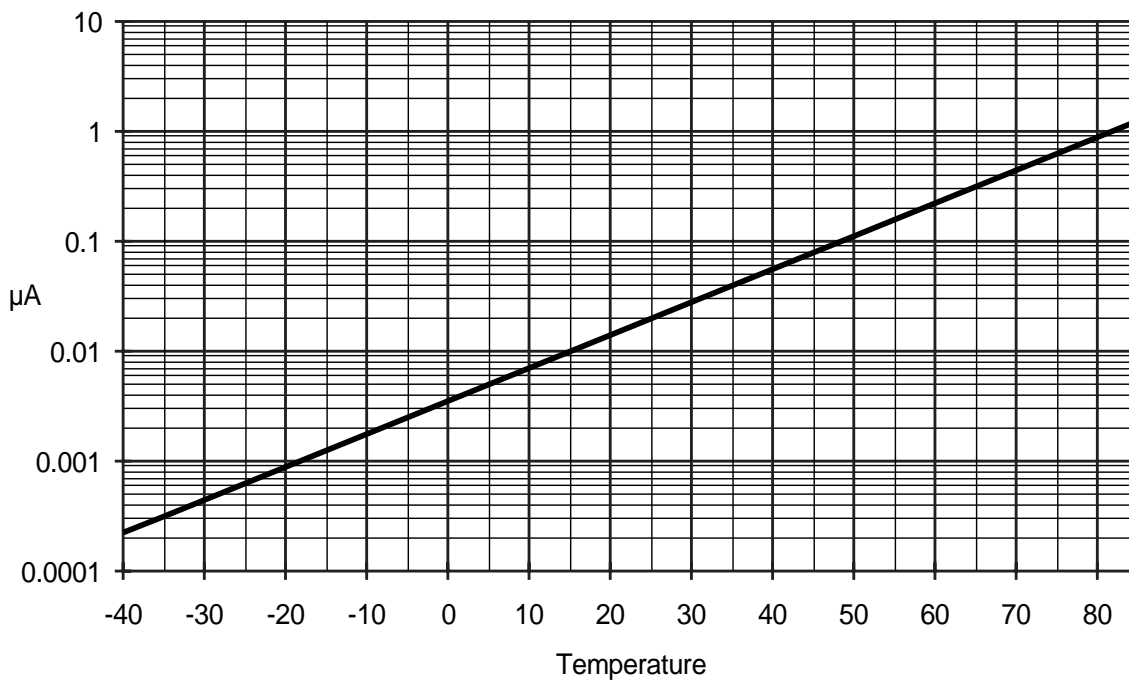

Figure 28: Typical 'Zero-Power'  $I_{DD}$  vs. Temperature ( $V_{DD} = 5.0V$ )
2. RD, MODE, RXCLK inputs at  $V_{SS}$ , ZP input at  $V_{DD}$ . See Figure 28